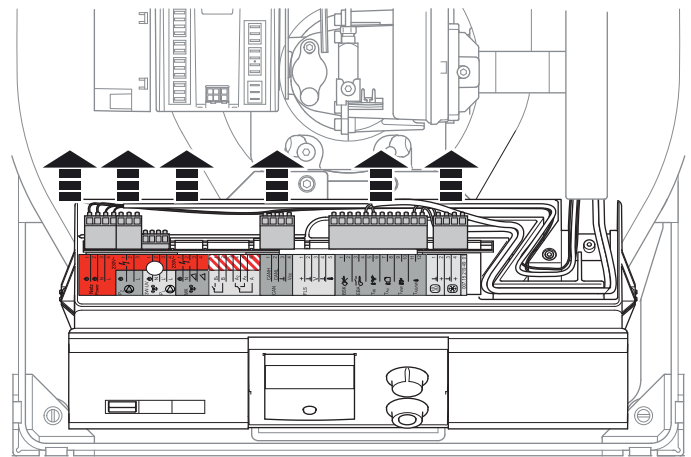

Fig. 6-4 Pull off the coded connector
5. Pull out all plugs from the switchboard PCB (fig. 6-4).